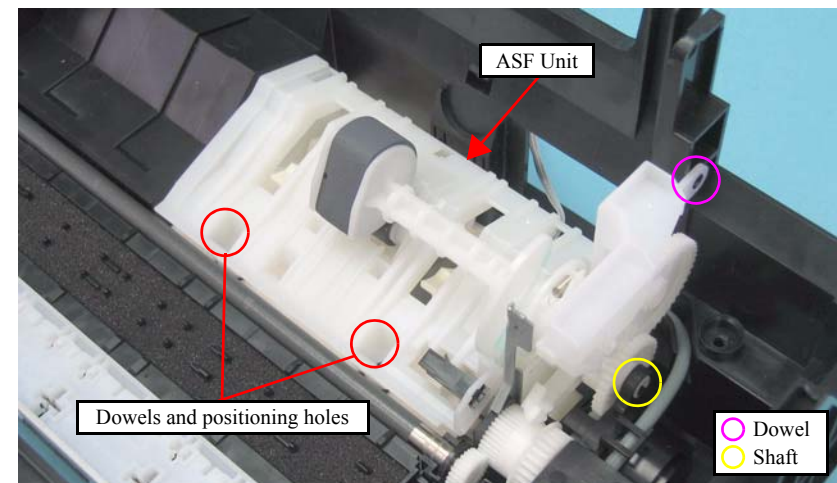

Figure 4-94. Removing the ASF Unit (2)
- When installing the ASF Unit, be sure to align the dowels (x2) of the Base Frame with the positioning holes (x2) of the ASF Unit as shown in Figure 4-94.